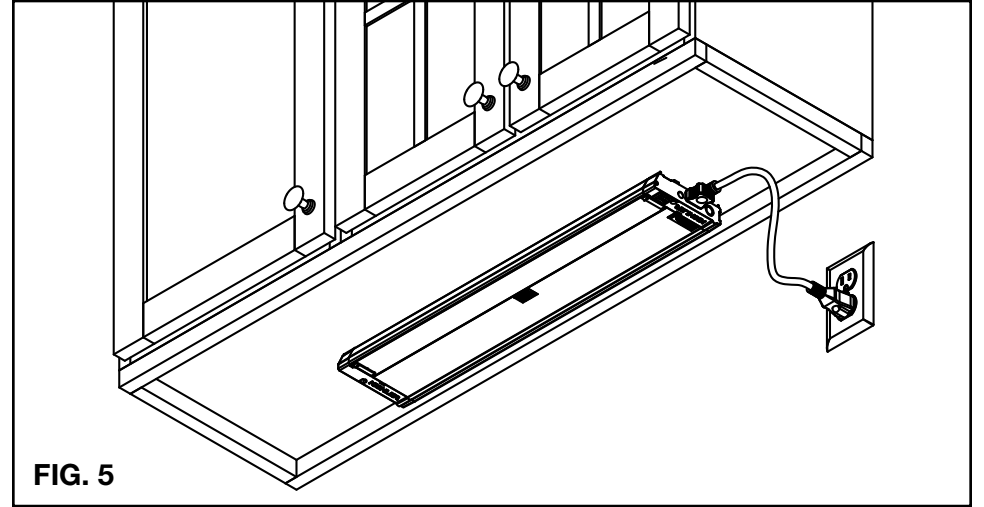

FIG. 5
1. Hold the fixture in the desired mounting location, leaving approximately 2 ½" clearance for plug-in cord, and not more than 5' from the nearest outlet. Drive mounting screws into cabinet surface until fixture is secure. If screws are difficult to install, mark holes and drill 1/16" maximum pilot holes. (ref. FIG. 5) **NOTE:** For 22" and 30" fixtures, open wire compartment by inserting flathead screwdriver into the slots and wedging cover open to install center screw. Once installed, swing the cover towards the fixture and close it by pressing at the ends of the cover until the cover snaps into place and is flush with the fixture.